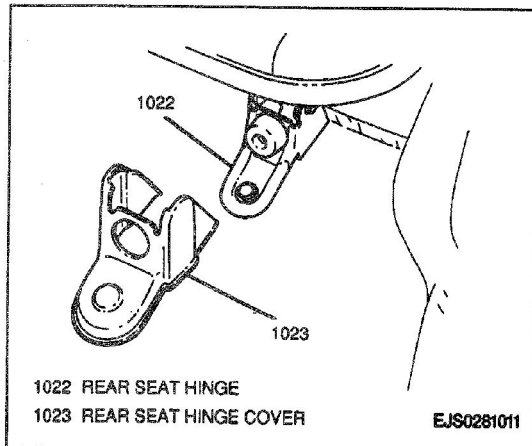

Figure 14—Rear Seat Hinge Cover
- Gently pry hinge cover from each rear seat hinge (Figure 14).
8. Hinge cover to each rear seat hinge (Figure 14).